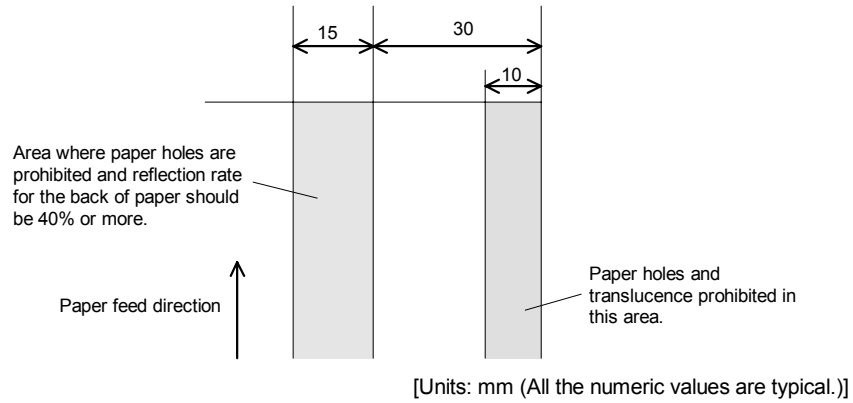

Figure 1.5.2 Area with No Paper Holes and Low Reflection
- 3) Observe the same limitations as for slips for the position of paper holes and the reflection ratio of the check (refer to Figure 1.5.2).